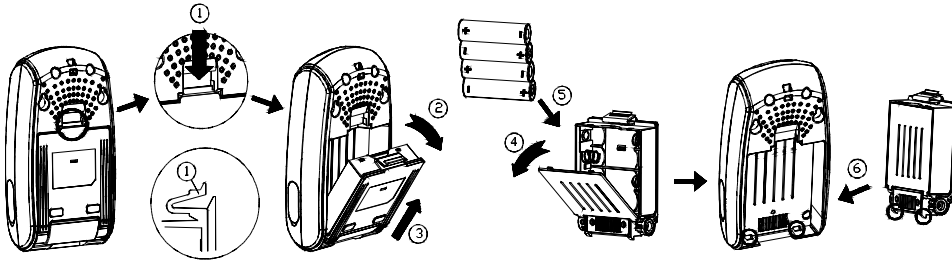

Fig. 10
1. Remove the power cavity from the rear of the Monitor. (Fig. 10)
2. Open the battery compartment cover and fit 4 AA-size batteries, following + and – signs as indicated on the inside battery compartment. (Fig. 10)
3. Close the battery compartment cover and refit the power cavity in place. (Fig. 10)